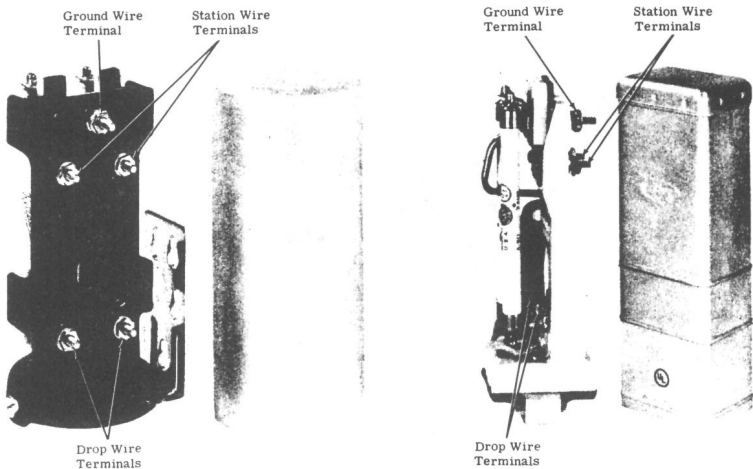

Figure 1 Fused Protectors
- 1.02 Fused protectors (Figure 1) consist of a molded body; binding posts for drop, station and ground wires; two fuse holders; two nominal 0.004 inch discharge blocks (color code white); and two plain carbon blocks. They are approved by the Underwriters Laboratories.